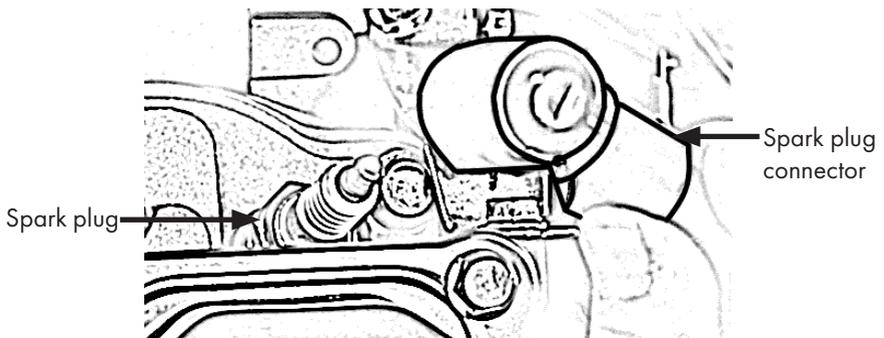

Figure 31
- Remove the spark plug cap, Fig. 31.